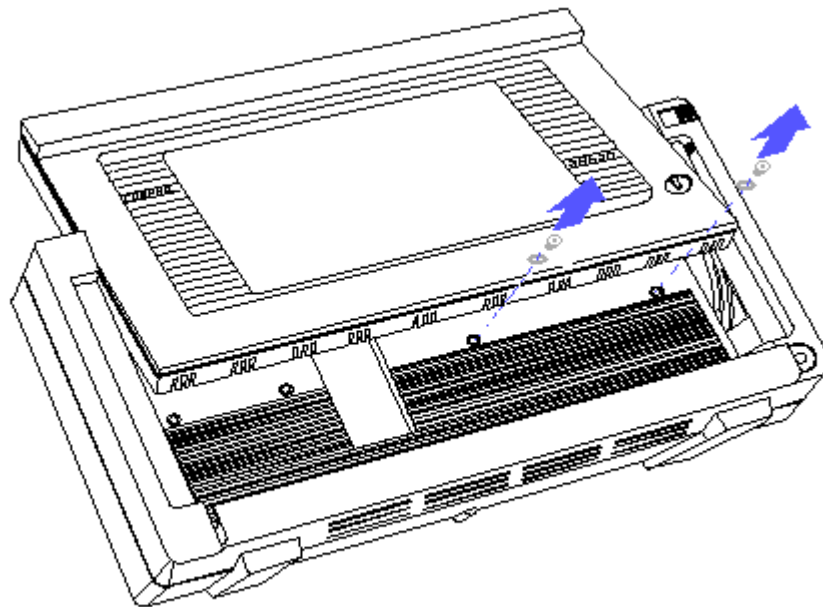

Figure 8-57. Removing the Bottom Two Screws and Washers from the Mass Storage Device Enclosure
9. Lift the plasma display into an upright position and remove the bottom two screws and washers from the mass storage device enclosure with a Torx screwdriver (Figure 8-57).